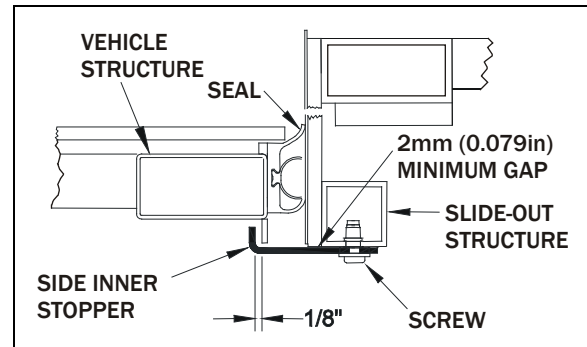

FIGURE 3 : SIDE INNER STOPPER ADJUSTMENT
1. Adjust the side inner stoppers at 1/8" from the vehicle side structure keys, and tighten the screws. Make sure there is a minimum gap of 2mm (0.079") between the side inner stopper and the side window pane (FIGURE 3). Use shim as required.